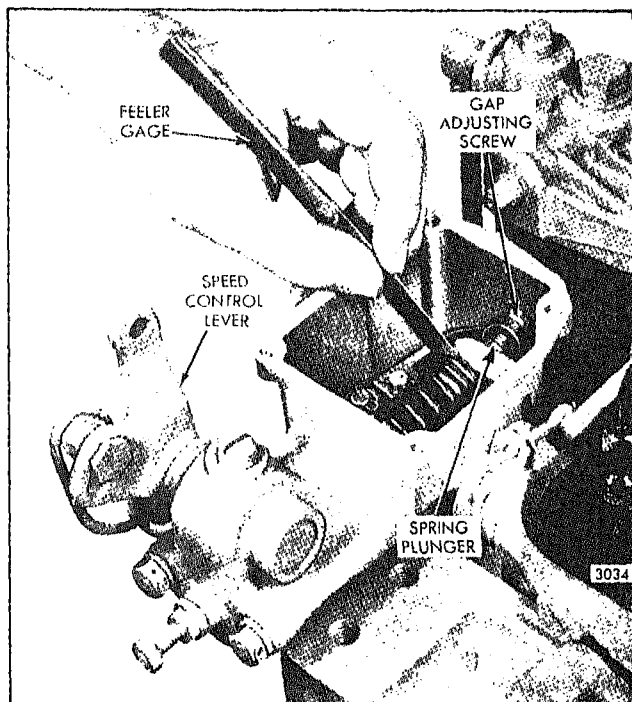

Fig. 1 - Checking Governor Gap
4. Place the speed control lever (Fig. 1) in the maximum speed position.
5. Insert a .006" feeler gage between the spring plunger and the plunger guide as shown in Fig. 1. If required, loosen the lock nut and turn the gap adjusting screw in or out until a slight drag is noted on the feeler gage.